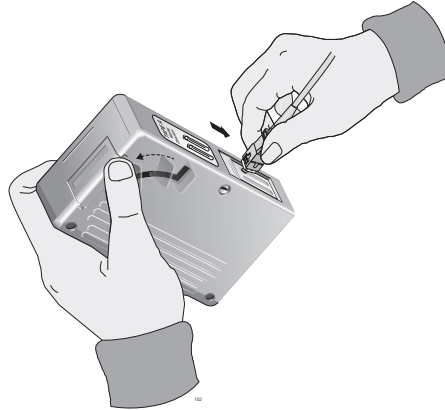

Figure 32. Rubbing the Ferrule Tip on the Cleaning Surface
1. With one hand, hold the cartridge cleaner and push the lever on the cleaning cartridge in the direction of the arrow to expose the cleaning surface, as shown in Figure 32 on page 61.
2. Place the ferrule tip on the exposed cleaning surface and rub the ferrule in a downward direction, as shown in Figure 32 on page 61.